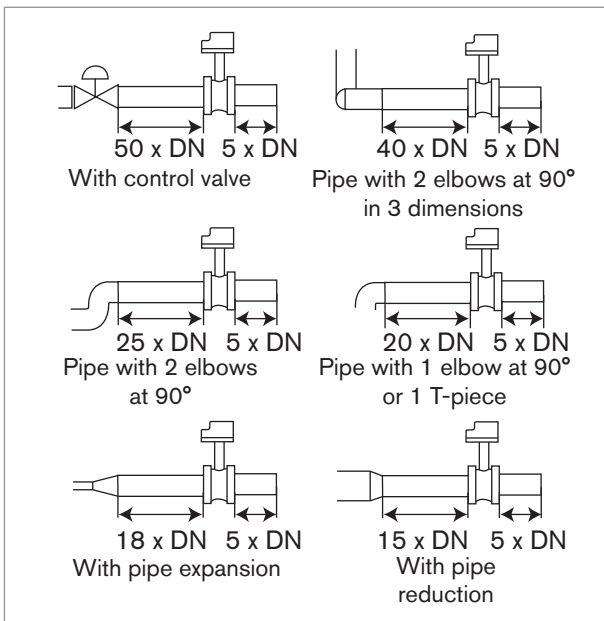

Fig. 3: Upstream and downstream distances depending on the design of the pipes.
- Install the fitting on the pipe to comply with the upstream and downstream distances defined by standard EN ISO 5167-1 (see Fig. 3).